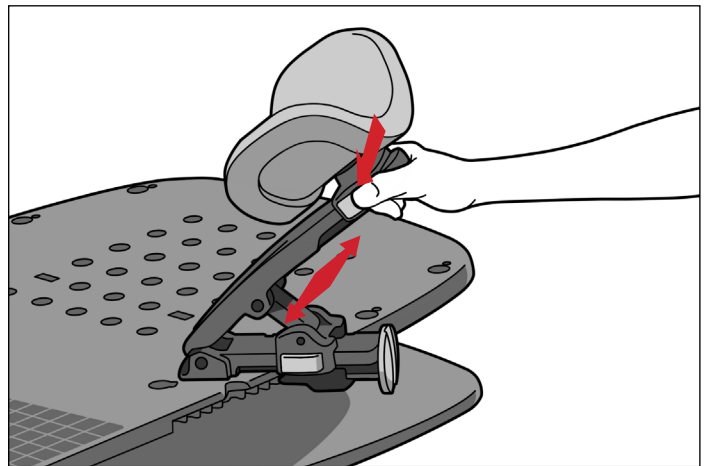

FIG. 14
4. To adjust the length of the arm, depress the button located on the length slider and slide along the arm, releasing the button once in the desired position. (Fig. 14)